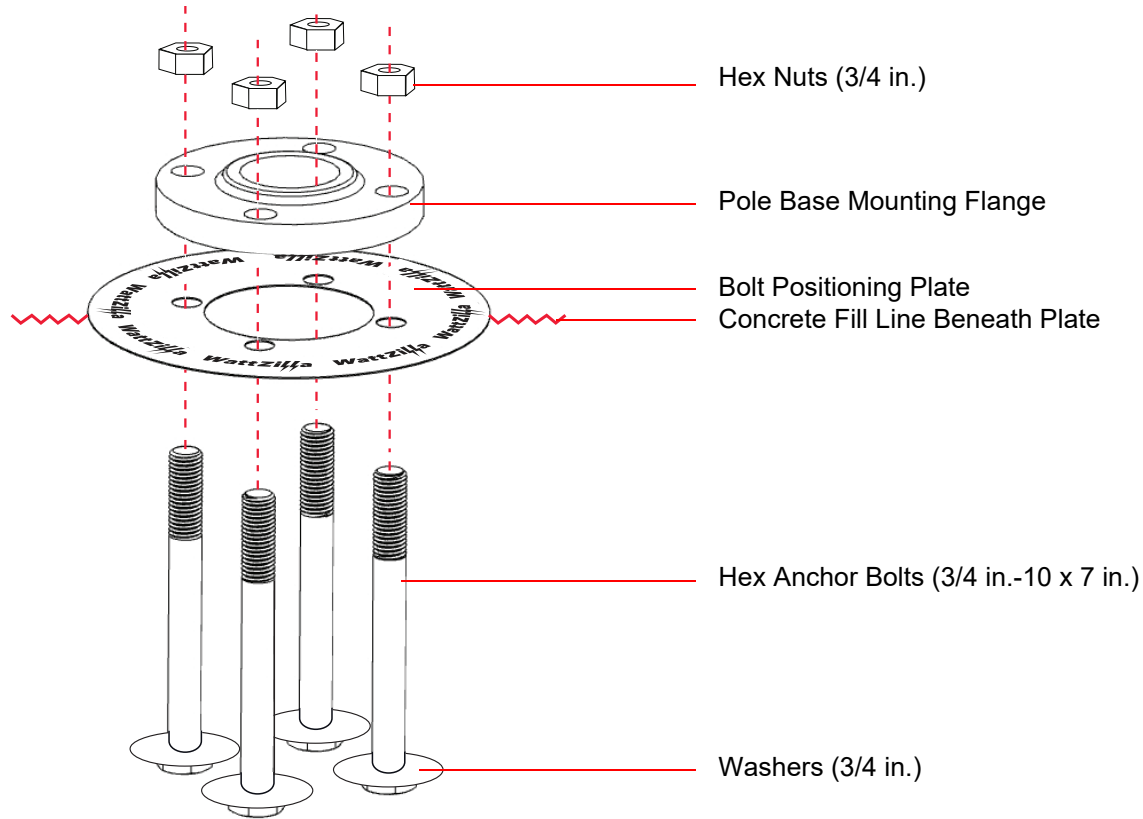

Figure 8. Pole Base Subassembly
2. Insert a washer onto each of the hex anchor bolts (Figure 8).
8. Slide the pole base mounting flange over the bolt positioning plate (reference Figure 8).
9. Using a wrench, attach and adequately tighten and torque a hex nut onto each of the threaded ends of the hex anchor bolts extending out of the flange (reference Figure 8).